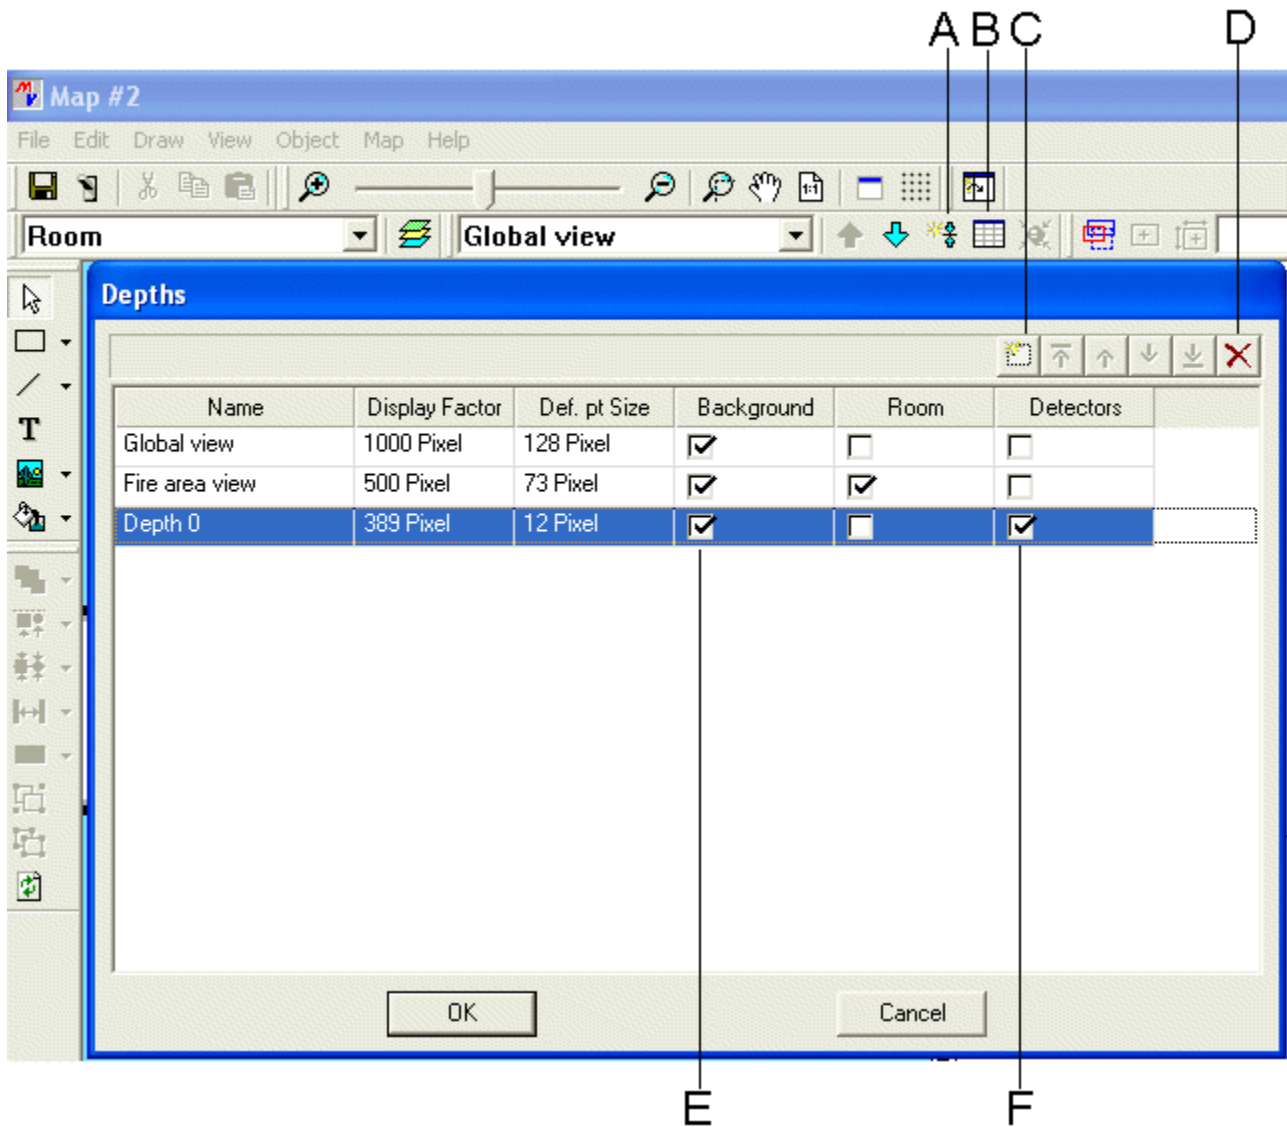

Fig. 8 Creating a new depth
**Note:** You have one button to create a new depth, and another to open the depth window where you can also add (as well as delete) a depth (see Fig. 8). Try to use the first command because it allows you to automatically set the zoom factor. The second command requires you to define the zoom factor as a numeric range (in pixel or metric unit).